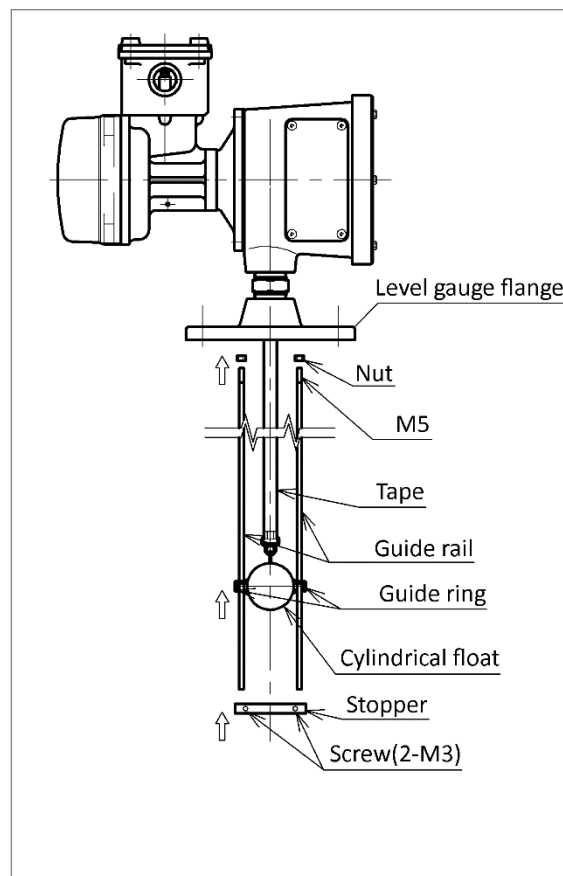

Figure 4. Wetted part assembly
- 4.3.1. Assemble the wetted part of the level gauge. (Refer to Figure 4). Screw two guide rails with nuts to the bottom side of the level gauge flange, and fix them by re-torquing the nuts.